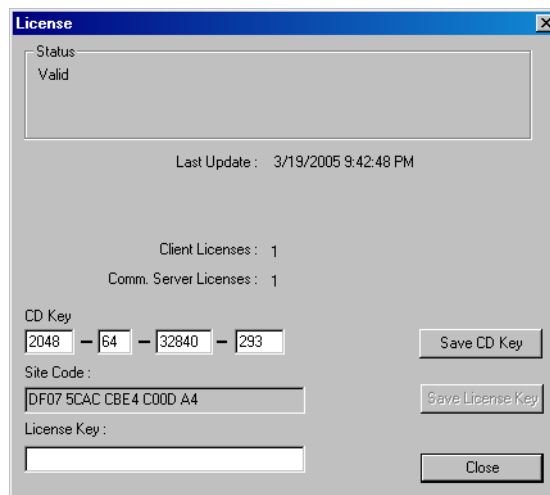

Figure 2-28 License
1. Choose **Help > License**. *Figure 2-28* appears.